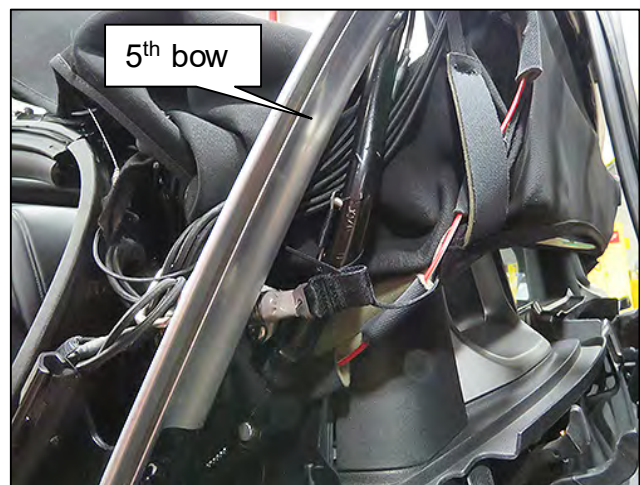

Figure 51
59. Lift the 5th bow to the angle shown in Figure 51.